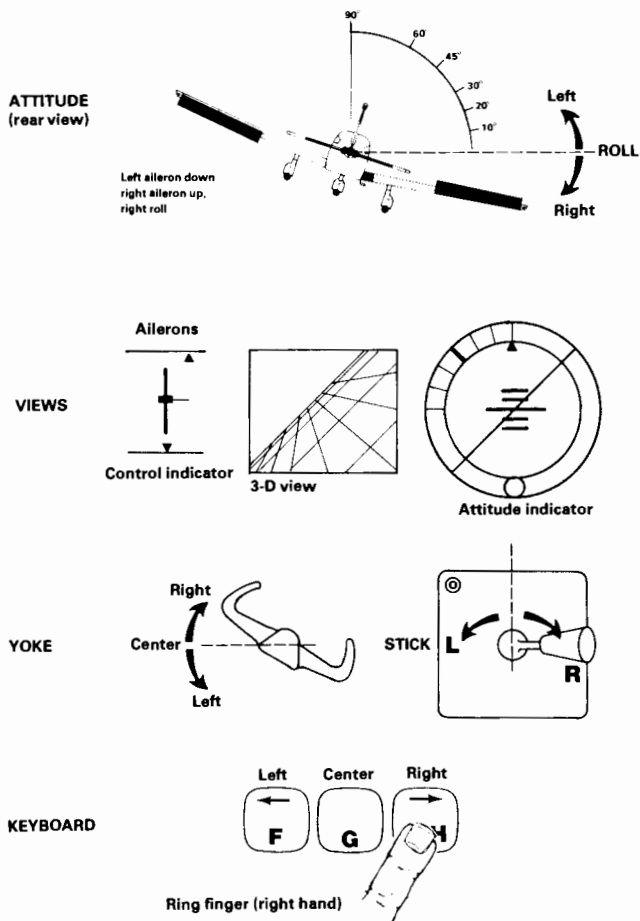

Figure 3. Ailerons - Controls and Effects
Figure 3 shows the yoke's aileron control function and effects.
3. With your index finger, press the F key 3 times. Rock your hand about the G key as you would move a joystick to press F.
4. Notice the aileron control indicator (see Fig. 3) move to the left.
6. Try right ailerons (H) key, and move the aileron indicator right and left without using the center key. The center key is only a convenience to let you quickly move the ailerons to center position.